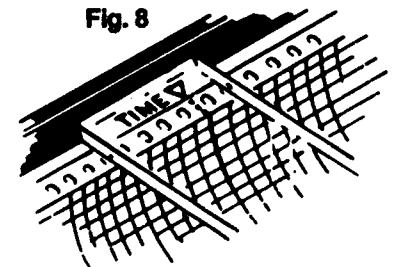

Fig. 8
6. Line up time arrow (see fig. 8) with any line on the left of the chart paper.
8. Mark time of start on chart paper. See fig. 8.